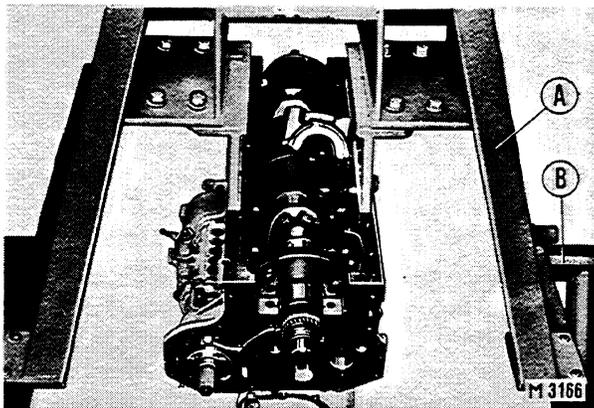

Fig. 25 - Crankshaft on the engine (connecting rod caps and main bearing caps removed).
- remove oil pan and install engine on rotating stand (fig. 25) ;